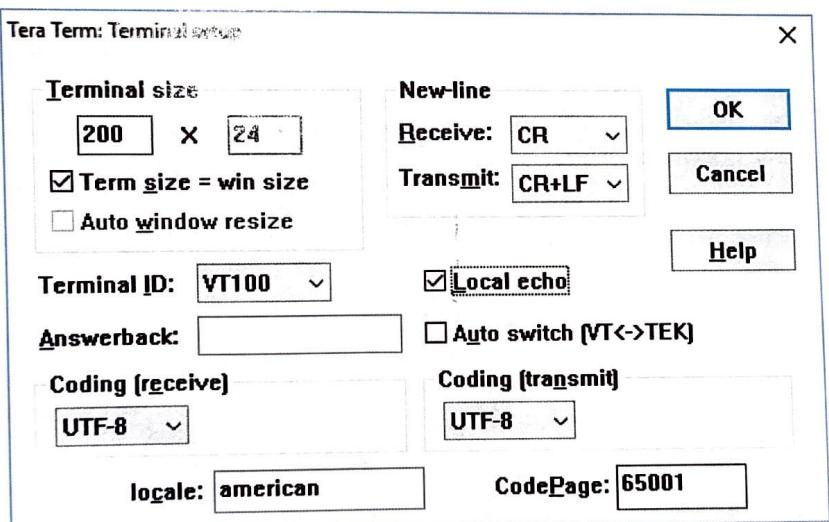

Figure 11
- Choose “Setup | Terminal” from the menu and select Local echo and Transmit CR/LF (Figure 11). It is recommended to also change the window size to full screen width. You also change the font under “setup | font”.